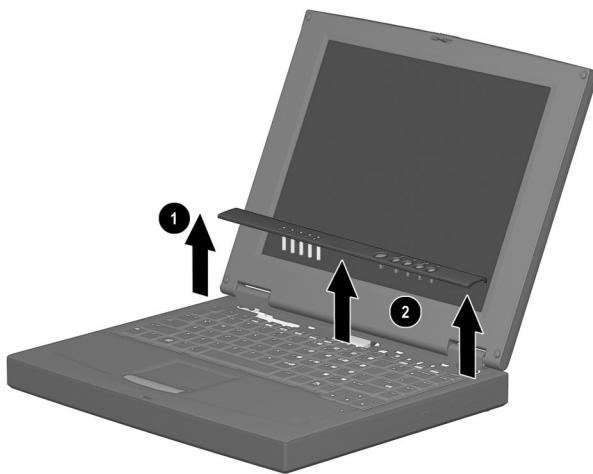

Figure 5-5: Removing the LED Cover
4. Lift up the left edge of the LED cover ① (Figure 5-5).
5. Lift up the front edge of the LED cover from left to right ②.